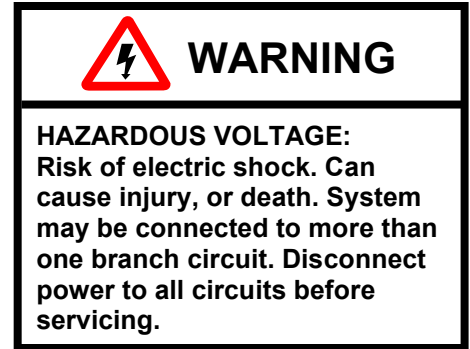

FIGURE 2
8. Use the screws removed previously to mount the new limit switch (Figure 2) in place.